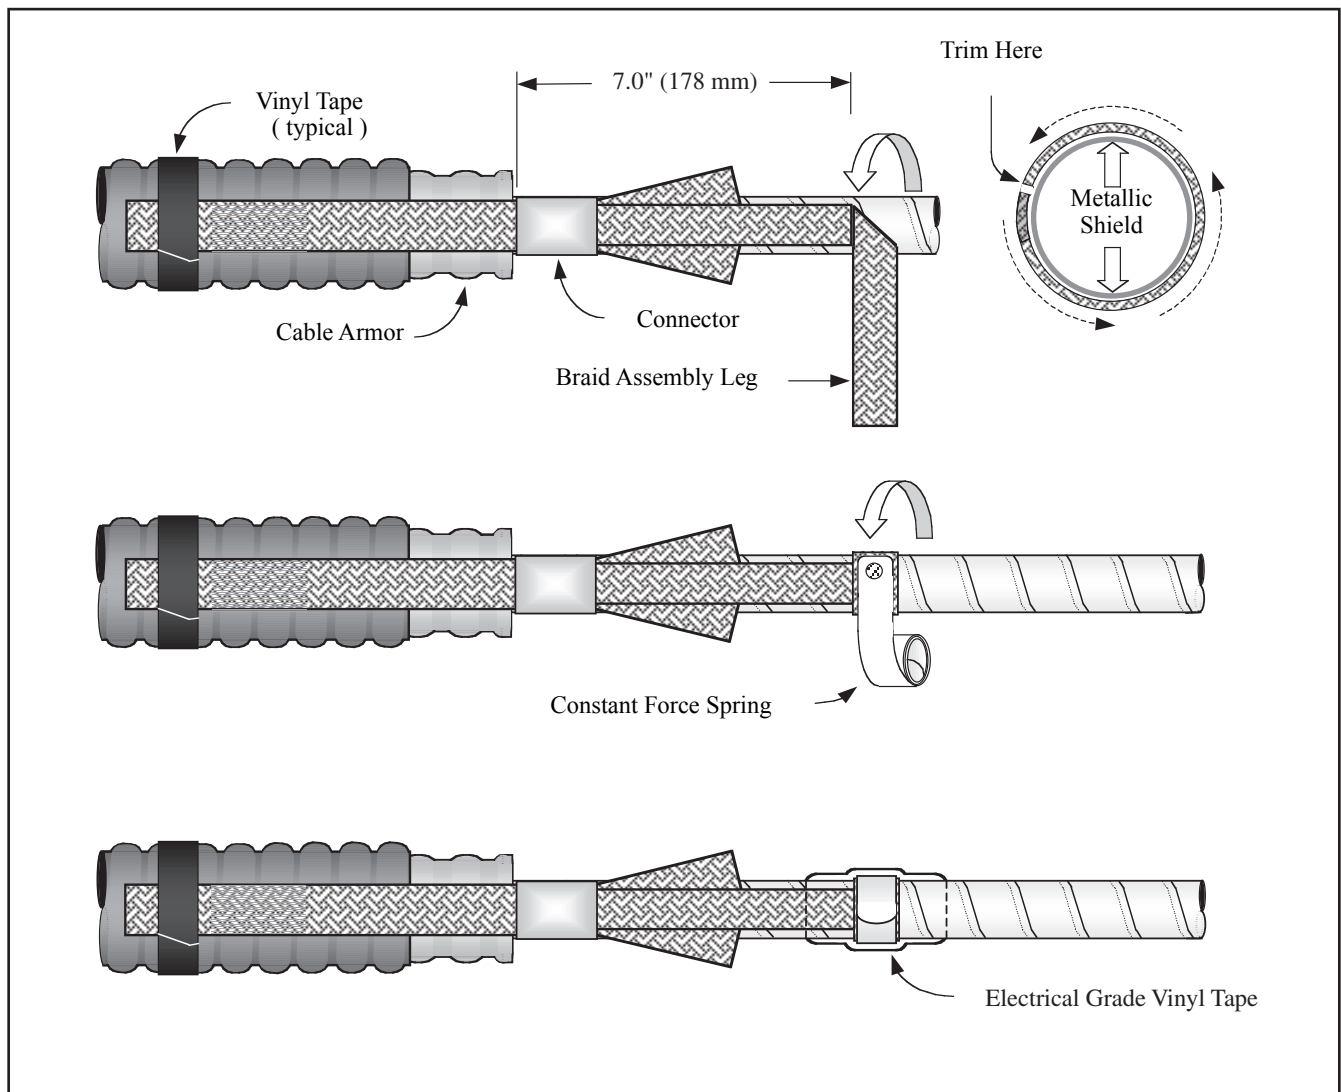

Figure 2
3.1 Position ground braid assembly over cable with assembly connector aligned to edge of armor (Figure 2).
Hint: Use temporary vinyl tape wraps as needed to assist in holding braid assembly to cable (Figure 2).
(a.) Short (Center) Braid Tail – Position ground braid assembly as shown (Figure 2). Wrap short, center ground braid tail around metallic shield of first cable core. Trim excess braid length to prevent overlap (Figure 2). Secure ground braid to cable metallic shield using small constant-force spring (Figure 2). Spring and braid leg should be wrapped in the same direction. Cinch (twist with hand) constant-force springs to tighten.
3.3 Apply two highly-stretched half-lapped layers of electrical grade vinyl tape over constant-force springs (Figure 2).